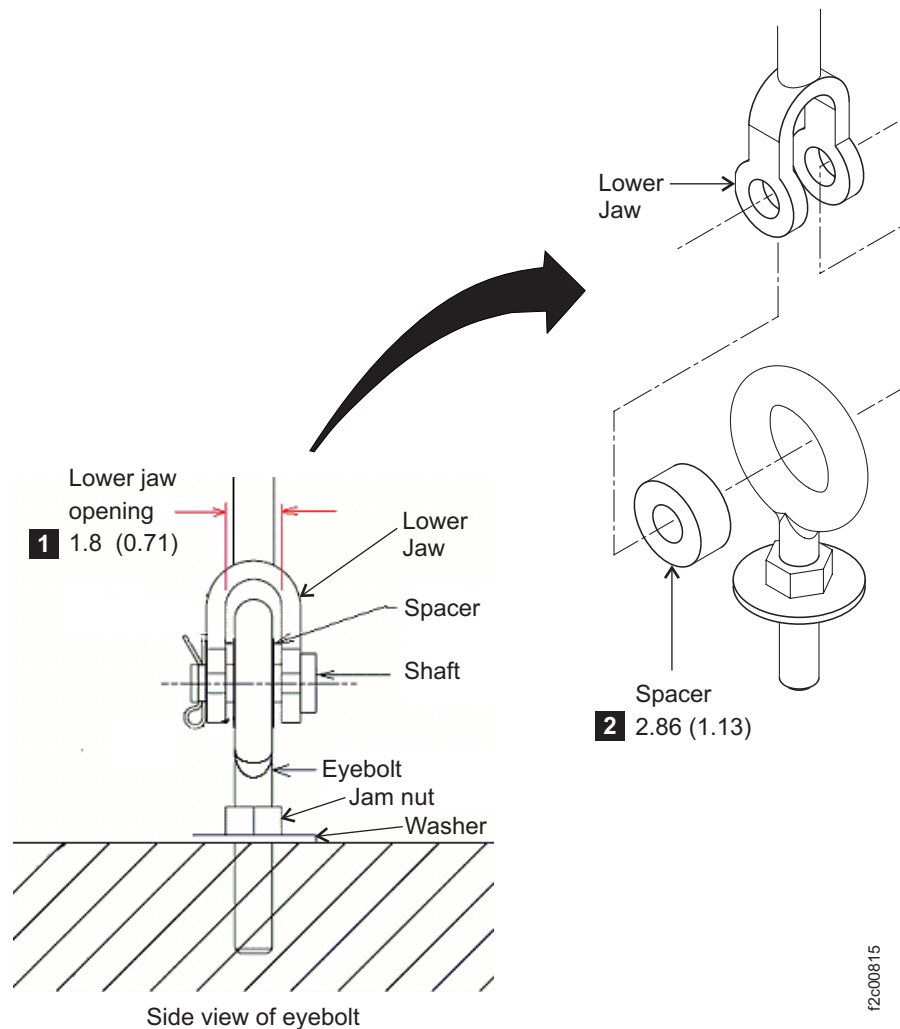

Figure 25. Eyebolt required dimensions. Dimensions are in millimeters (inches).
- The dimensions of the eyebolt must allow the turnbuckle lower jaw of the kit to fit over the eyebolt ( **1** on Figure 25 on page 157) and allow the spacer of Earthquake Resistance Kit to fit inside the eye ( **2** on Figure 25 on page 157).